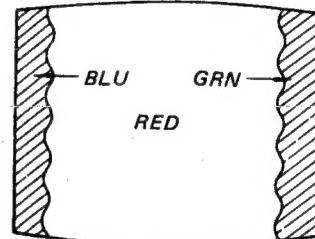

Fig. 1-3.
6. Adjust purity control to center vertical red band as shown in Fig. 1-3.